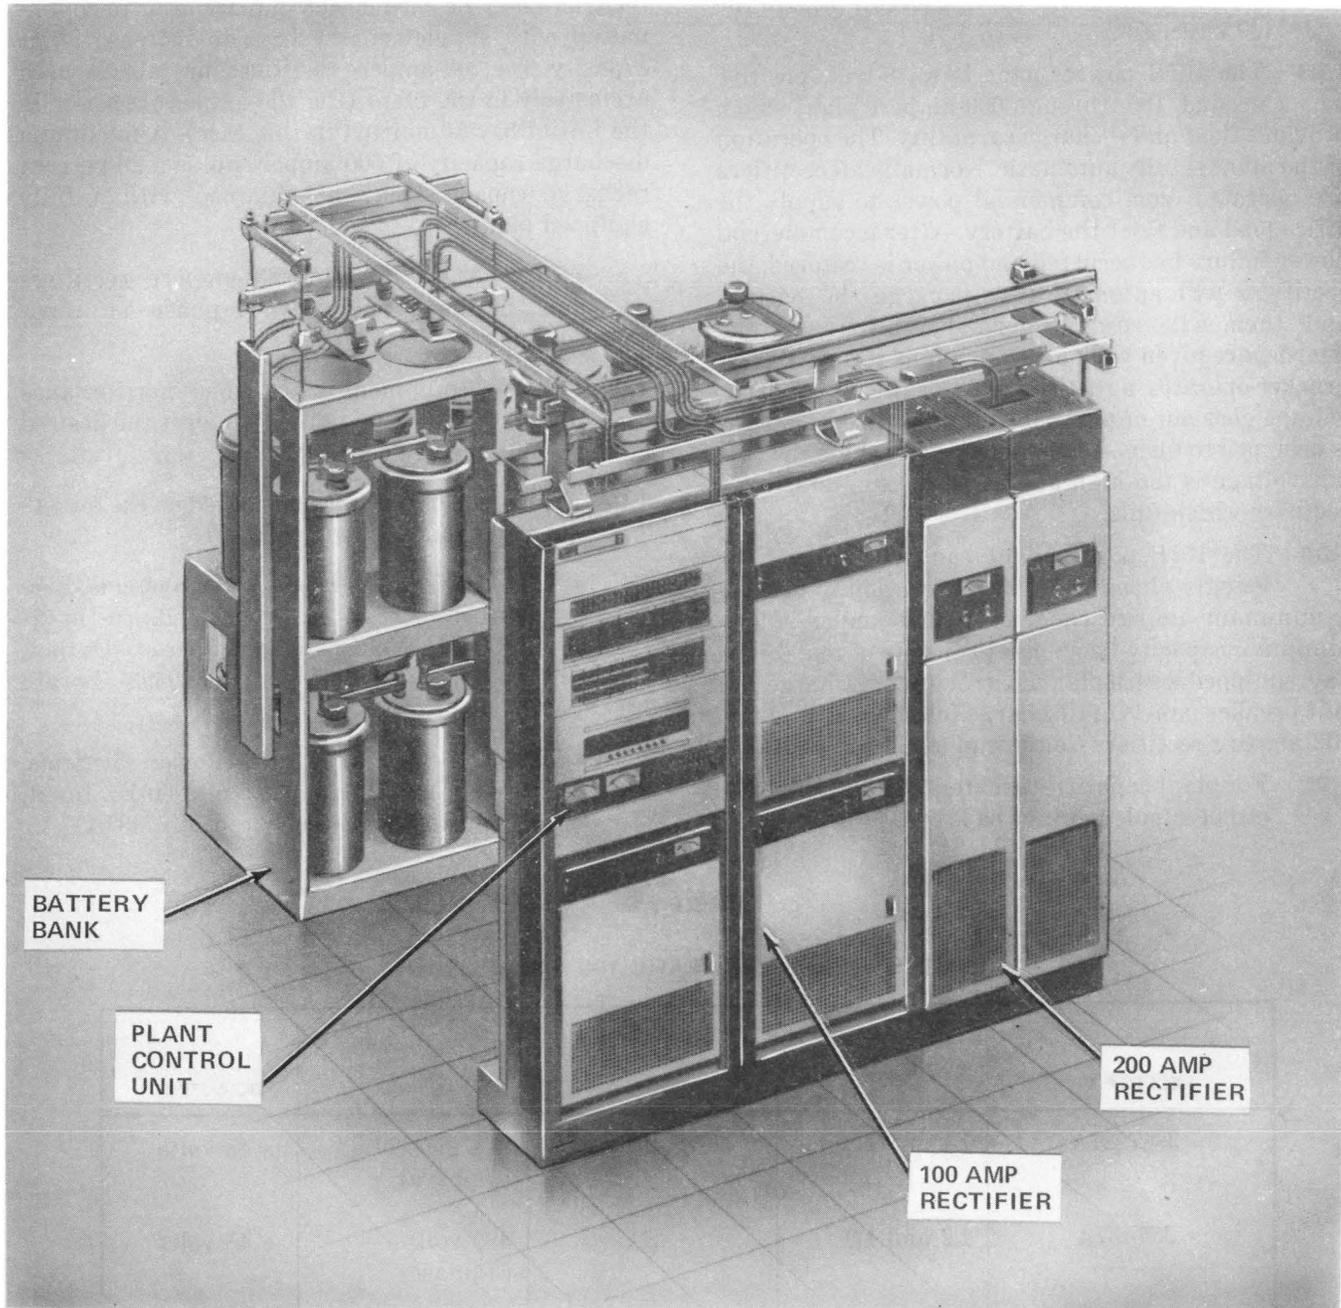
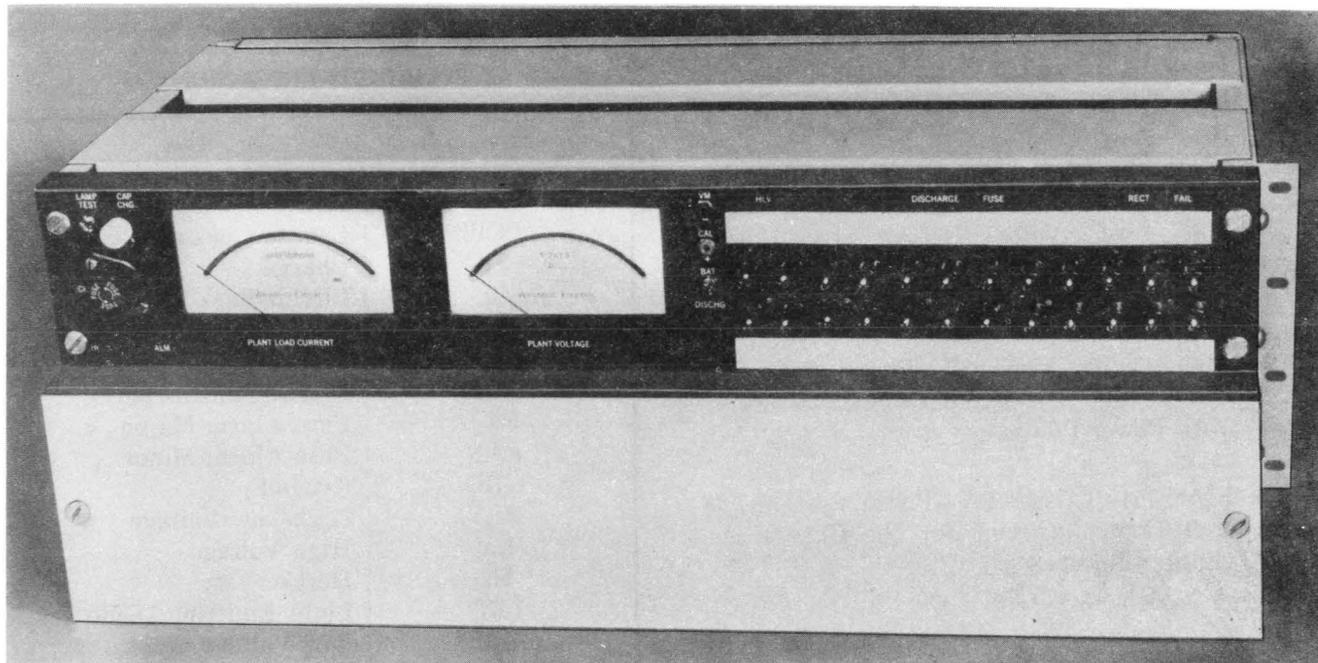

Fig. 1—151B Power Plant
Fig. 2—J85516B, L1 and L3, Plant Control Unit
tifiers can be provided (Fig. 1). The J87439A, L1 or L2, rectifiers may be used either in place of or in combination with supplementary bays to increase plant capacity. The 200-ampere rectifiers may also be used exclusively in the plant (the 100-ampere rectifier in the initial bay is omitted in this case). A maximum discharge capacity of 600 amperes plus a 20 percent recharge capacity may be obtained with a fully equipped plant.
**2.02** The plant control unit mounts in the initial bay between the rectifier and the circuit breaker panel (Fig. 1). On the front panel of the control unit are the plant ammeter, the plant voltmeter, the alarm indicator LEDs, and a control fuse panel using 70-type fuses (Fig. 2). Table C gives a complete list of controls, indicators, and fuses on the control unit. Located inside the control unit are the plant voltage monitor and plant alarm circuits mounted on a printed wiring board (WC1 or ♦WC2♦ circuit pack). This board plugs into a printed wiring motherboard which provides a terminal field for rectifier control and plant alarm connections.
(Fig. 1). The J87439A, 200-ampere rectifier is a self-contained bay (Fig. 1). Both rectifiers are designed to be serviced and maintained exclusively from the front.